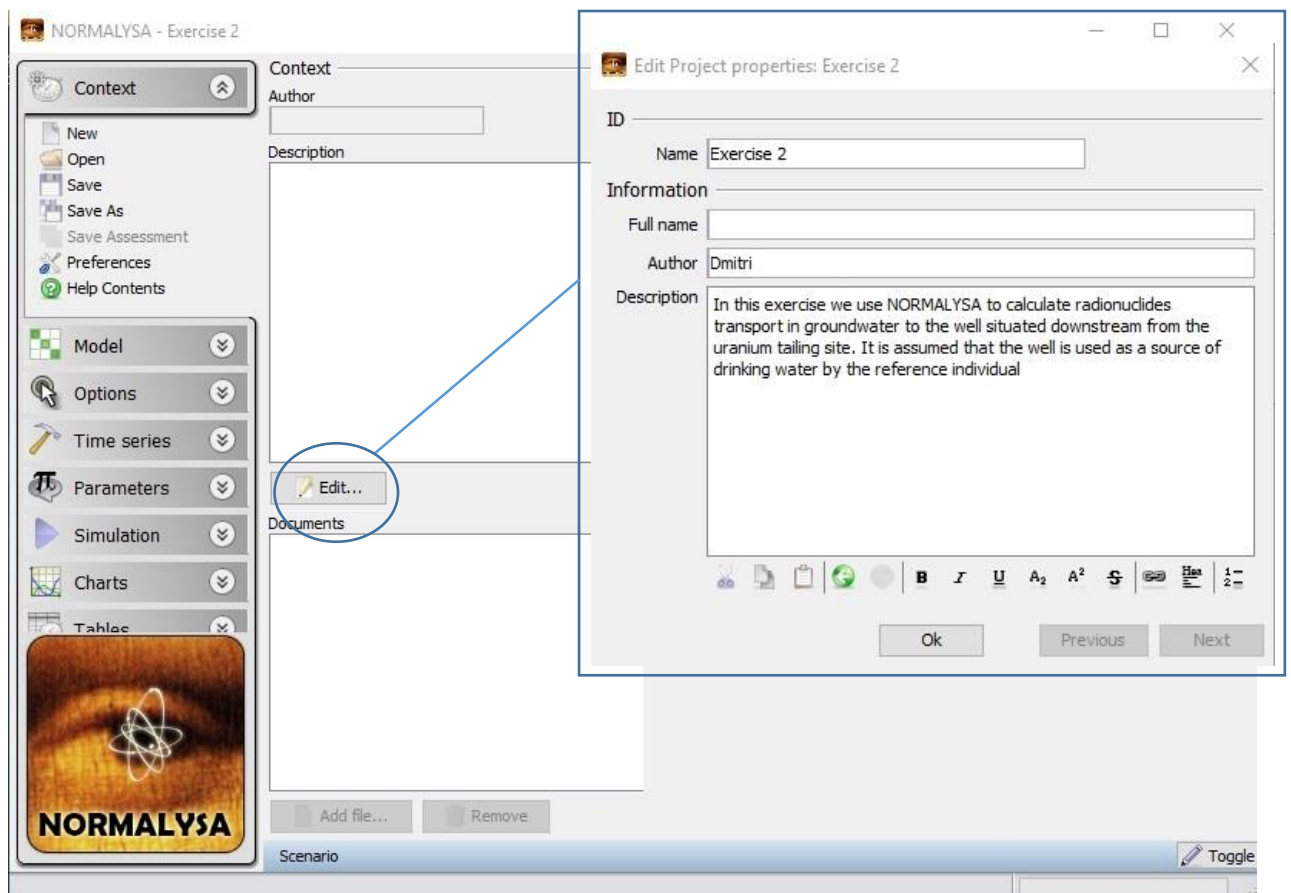

FIG 4. Editing ‘Project properties’ window.
1. Click the ‘New’ button in the context menu to create a new model file. Press the ‘Edit’ button to get access to the model description field (FIG 4).